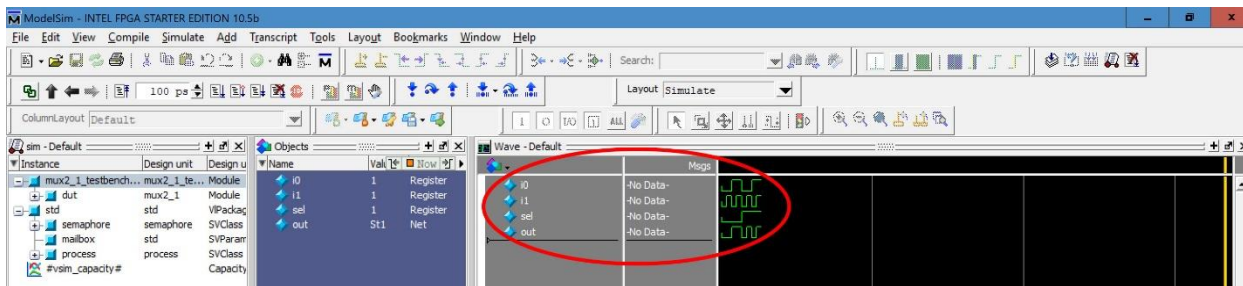

Figure 6: Simulation results shown in the Wave pane.
- 3) **View the results in the Wave pane (*Figure 6*).** Time moves from left (start) to right (end), with a green line for each input and output of the design. When the green line is up, it means that signal is true; when the green line is down, it means the signal is false.